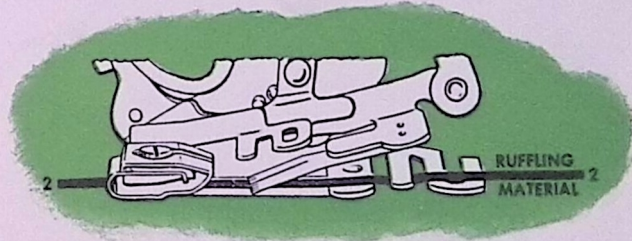

Fig. 73. Correct Position for Material
3. Insert material to be plaited between two blue blades and under the separator guide (**Line 2, Fig. 73**).